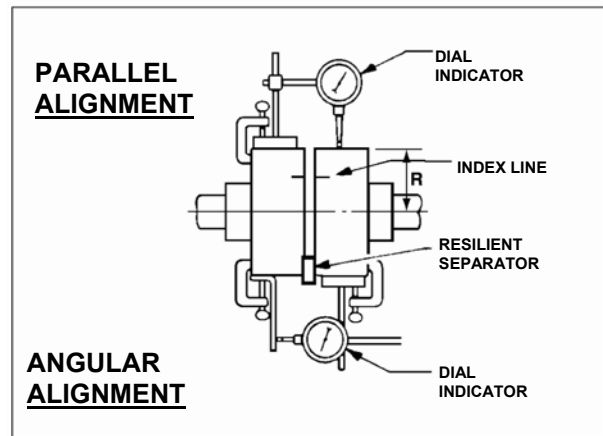

FIGURE 6B - CHECKING ALIGNMENT (Method 2)
(See Figure 6B)
- c. Scribe index lines on coupling halves as shown in Figure 6B.
misalignment is .004"T.I.R. per inch of radius R (See Figure 6B).